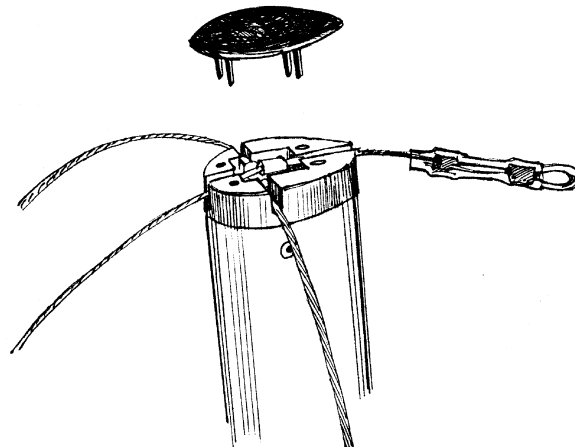

Fig.14
2.1.14. Insert the top side wire in the kingpost cap slots, then insert the top front wire. Install the cap cover which fixes the wires (Fig.14).